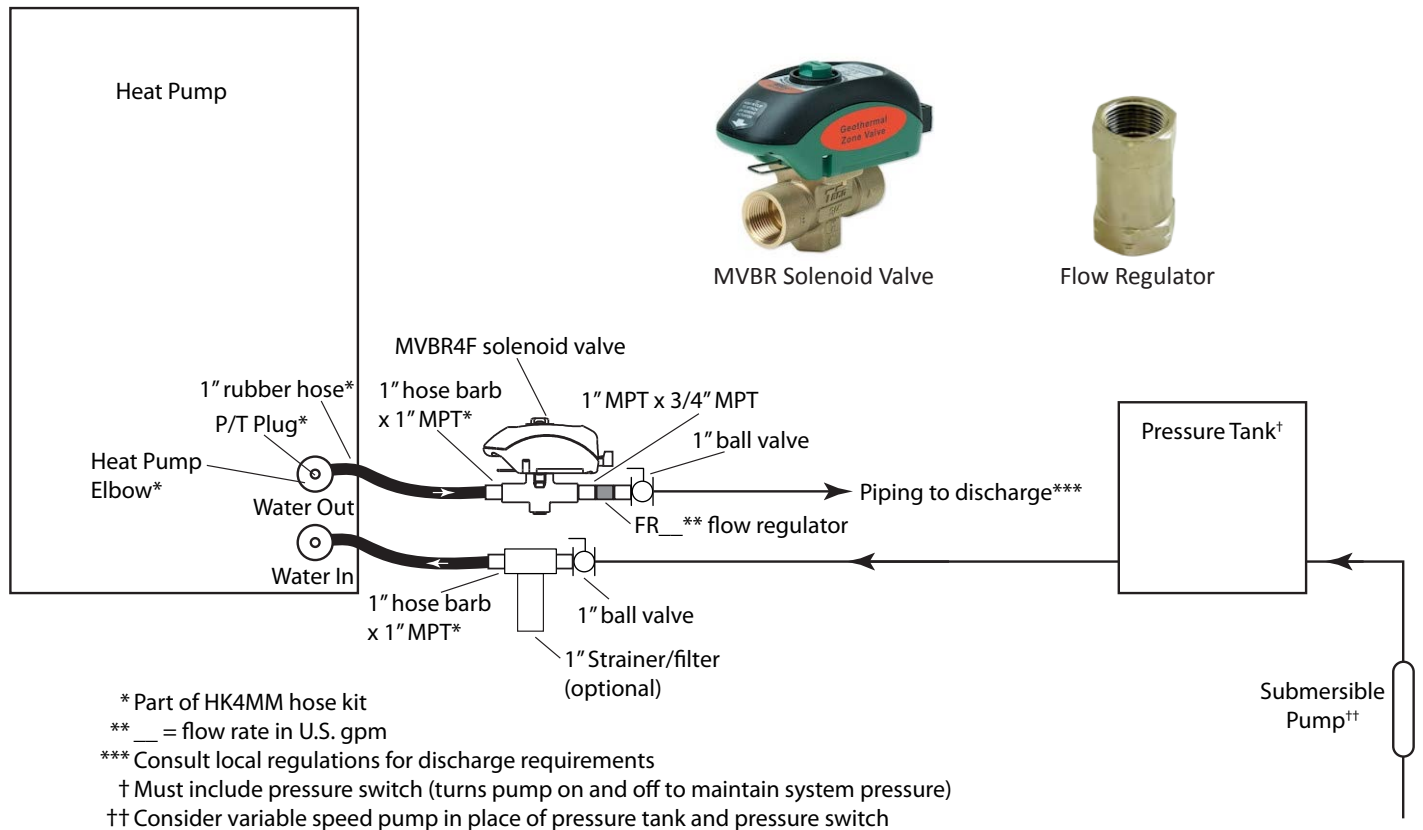
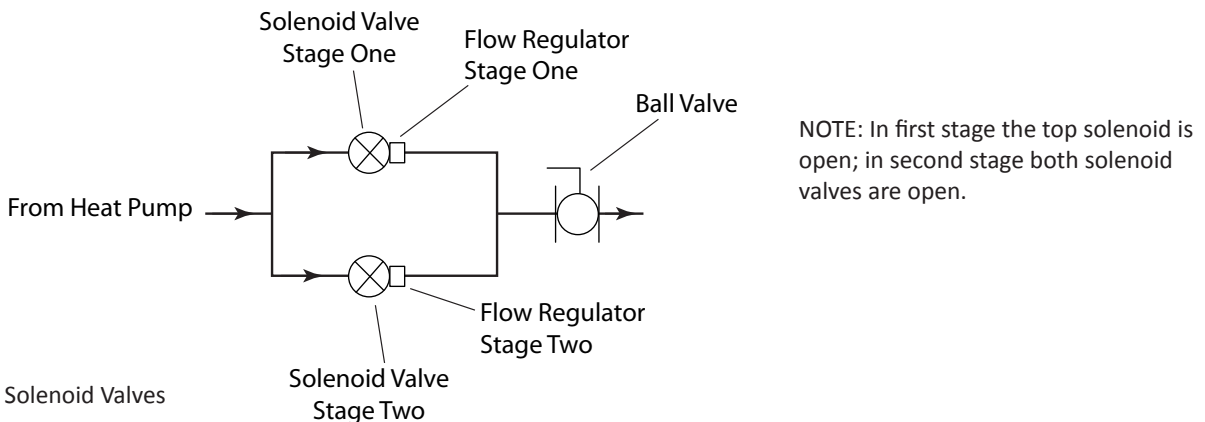

Figure 4: Single Solenoid Valve
Figure 5: Two Solenoid Valves
3. Before wiring solenoid valves, review Figures 4 and 5 (below) to determine piping arrangement. Open loop systems require a water solenoid valve to turn on the water when the heat pump compressor is energized, and to turn off the water when the compressor is off. A slow-closing motorized valve (MVBR3F or MVBR4F) is recommended to help reduce water hammer. A flow regulator limits water flow to avoid using more water than the heat pump requires, which wastes water and increases pumping costs. A hose kit provides vibration isolation, as well as convenient fittings to install P/T (pressure/temperature) plugs for checking water temperature and pressure drop at startup and during troubleshooting. Figure 4 shows the typical piping arrangement for a single solenoid valve. For single speed heat pumps and smaller two-stage heat pumps (3 tons and smaller), one valve is typical. For larger two-stage heat pumps, there is an opportunity to save a significant amount of energy (and avoid wasting water) with the use of two solenoid valves, one for first stage, and both for second stage (Figure 5).